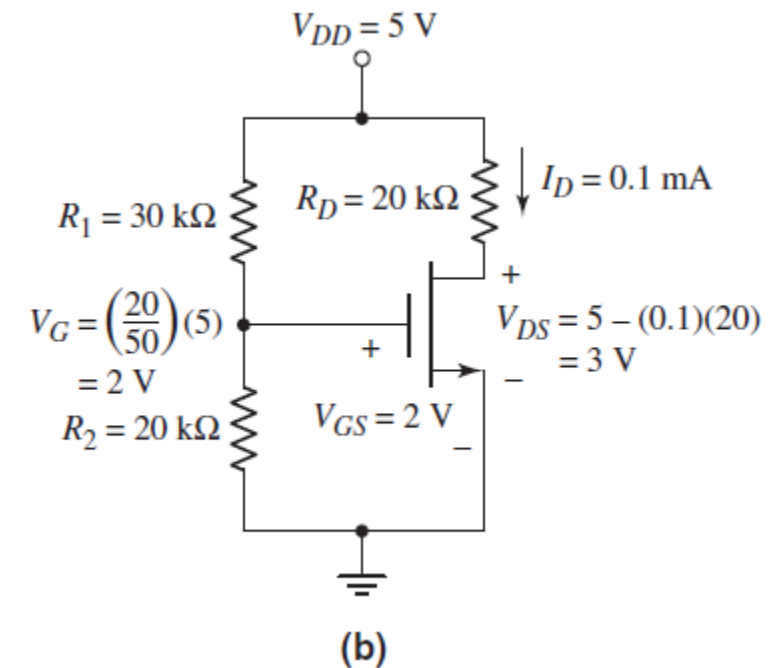

Figure 3.25
- Consider the circuit shown in Figure 3.25(b). Assume transistor parameters of: